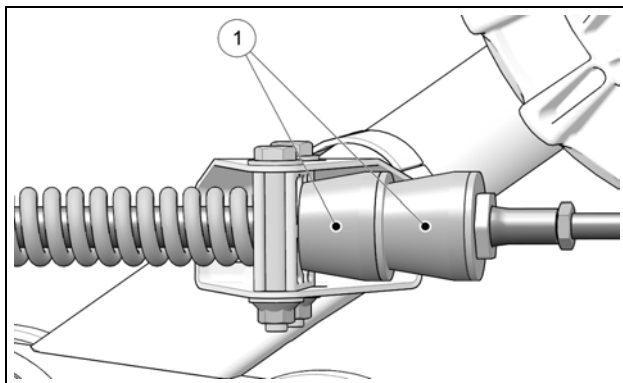

Figure 38
Check wear and damage on rubber dampers (1) mounted on the stabilizing arms. Replace them if they show cracks or are excessively worn or deformed. See Figure 38.